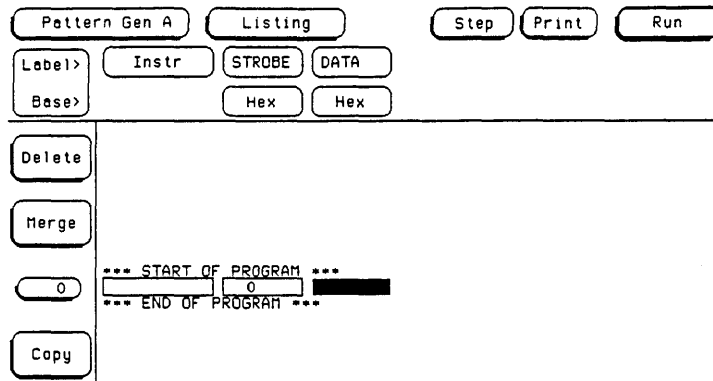

Figure 3-7. Program Field
1. Touch program field as shown in figure 3-7.